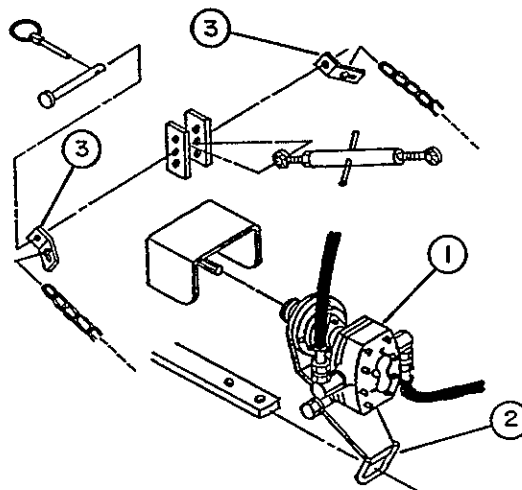

FIGURE 3
- a) Attach hydraulic pump assembly (fig.3, item 1) to tractor PTO shaft, making sure to place tractor draw bar inside hinge portion (fig.3, item 2) of assembly. Make sure locking collar securely locks pump assembly in place.
- b) Install one chain support plate (fig.3, item 3) on each side of tractor upper hitch point. Secure to tractor pin with lynch pin.